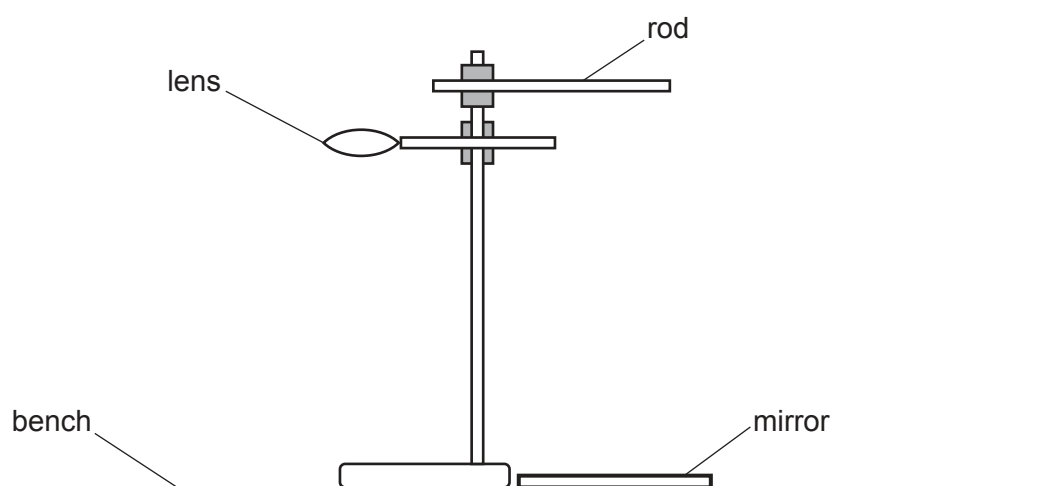

Fig. 3.1
2. The stand, clamp, bosses, rod and lens should be arranged by the supervisor as shown in Fig. 3.1 before the examination.
The supervisor must ensure that the apparatus is in the configuration shown in Fig. 3.1 with the rod and lens close together on opposite sides of the stand and approximately half-way up the stand.